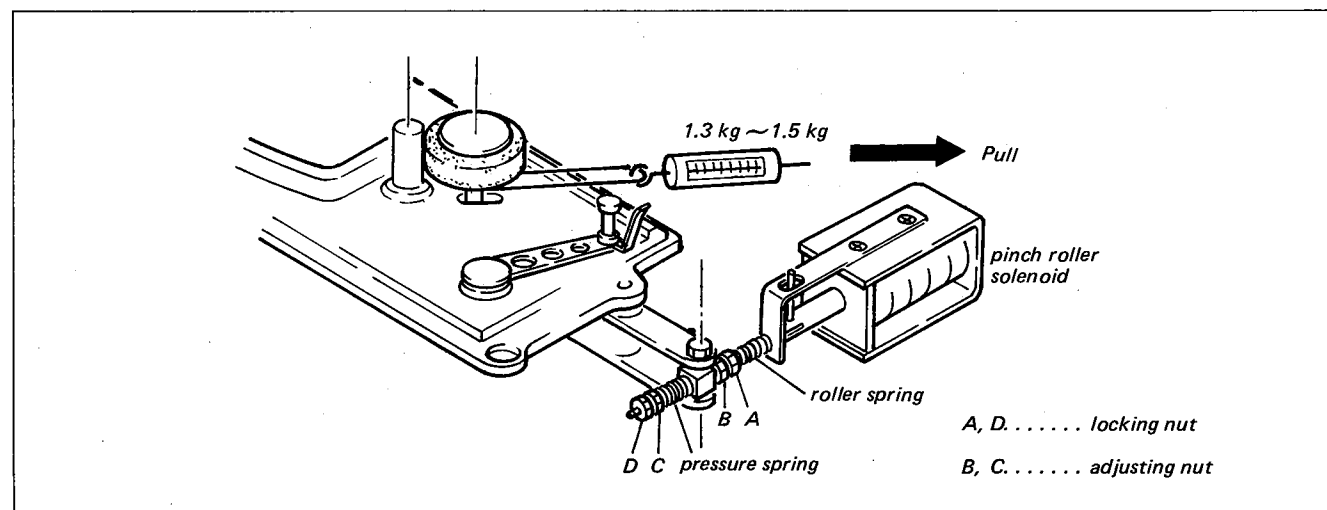

Fig. 3-4 Pinch roller pressure adjustment
3-4. Pinch Roller Pressure Adjustment (See Fig. 3-4)
- 2) Set the spring scale to the pinch roller as shown in Fig. 3-4. Push the FORWARD button "►".
adjusting nut C (see Fig. 3-4) of the pinch roller solenoid for a spring scale reading between 1.3 and 1.5 kg